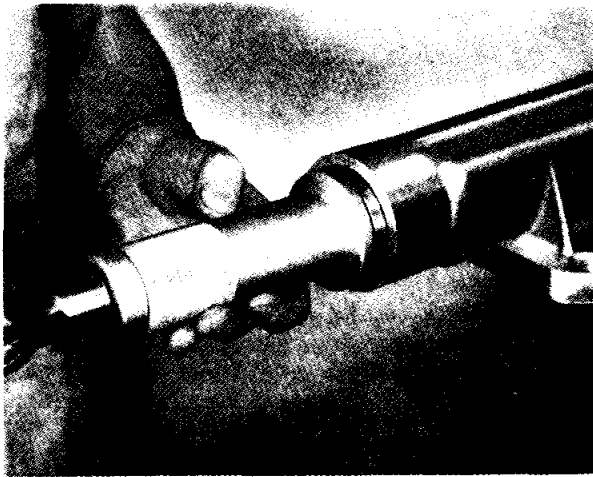

Fig. 26 Fitting Extension Housing Oil Seal with Churchill Tool No. 20S. 87.
- (r) Locate gearbox extension oil seal as shown in Fig. 26.